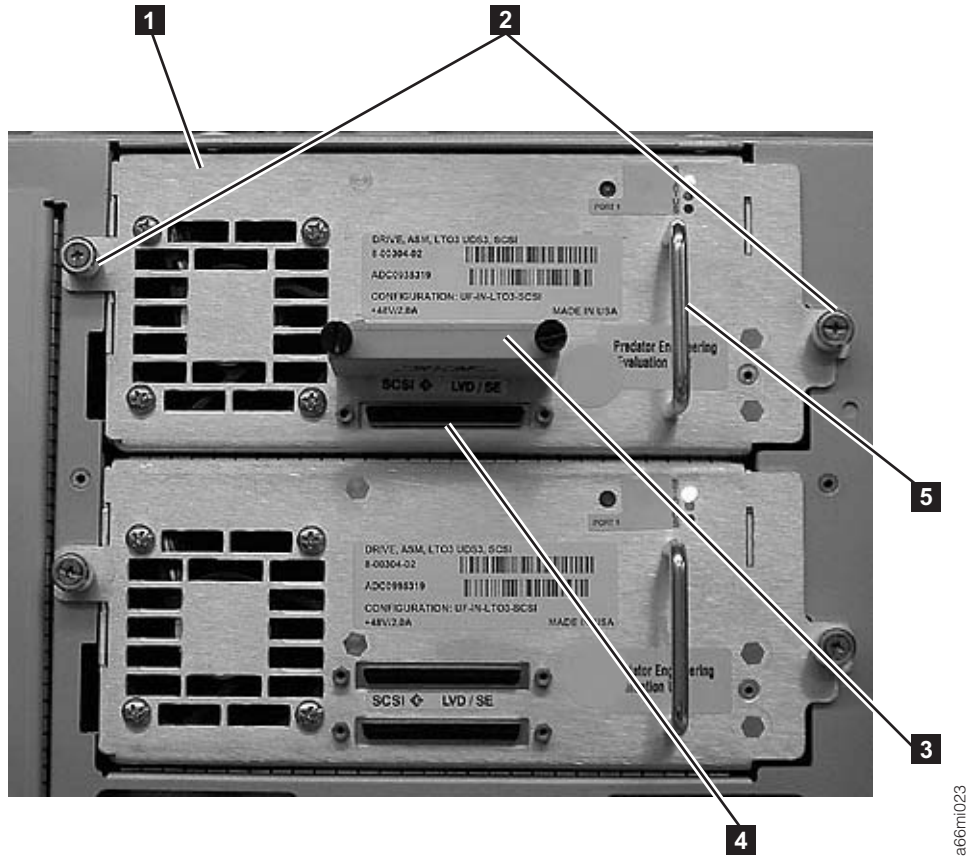

Figure 3-9. SCSI Drive Sled (detail)
1. Loosen the two thumb screws (2 in Figure 3-9) that hold the drive sled in place by turning them counterclockwise.
2. To remove the drive sled, grasp the handle (5 in Figure 3-9) and slowly pull it toward you, while supporting the drive sled from underneath.